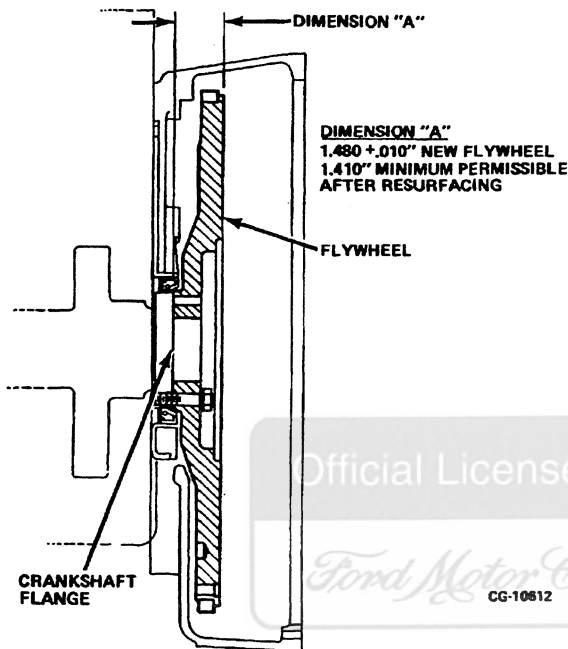

Figure 6.48. Flywheel Surface Grinder
2. Do not grind beyond the minimum permissible thickness of 1.410 in. Replace the flywheel if not repairable by surface grinding. Refer to **Figure 6.48.**